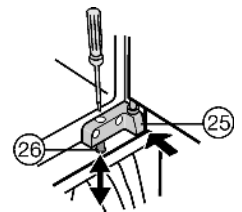

Fig. 13
- ▶ Adjust the appliance in height: by way of the adjusting screws Fig. 13 (26) in the bearing supports Fig. 13 (24,25).